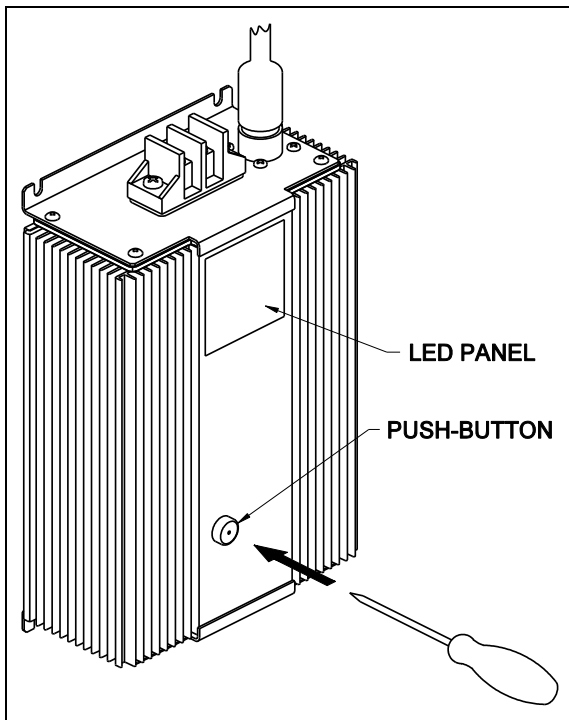

FIGURE 40 : SLIDE-OUT LOGIC CONTROLLER SET UP
4. With a small screwdriver, push and hold the logic controller black push-button and set the 4th breaker (see figure 38 and figure 40). Hold the push-button depressed until the logic controller "OUT6" green LED goes on (see figure 52). The green LED confirms that the rear slide-out program is set in the logic controller memory.
5. Memorize the slide-out inner limit by pushing once the logic controller black push-button (see figure 40). The green LED "OUT6" confirms that the stroke limit is set in the logic controller memory (see figure 52).
7. Memorize the slide-out outer limit by pushing once the logic controller black push-button (see figure 40). The green LED "OUT6" confirms that the stroke limit is set in the logic controller memory (see figure 52).